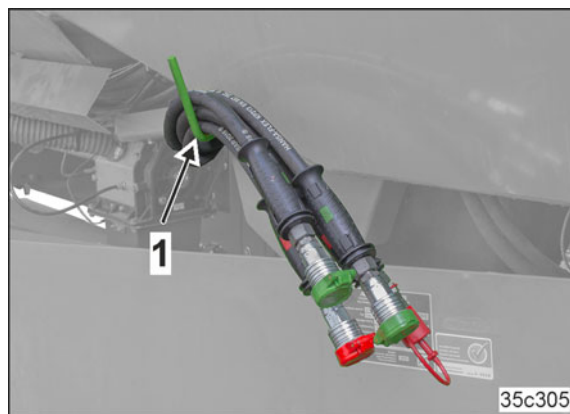

Fig. 123
1. Couple the additional hydraulic hose lines with the PTO shaft hydraulic pump (Fig. 123/1).
- Hose cabinet (Fig. 123/1)